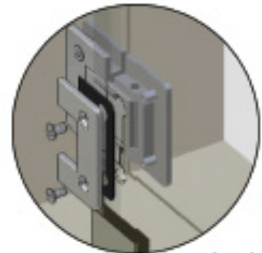

FIG.20
- Fasten hinges to return panel and place in closed position. The screws should face into shower and the hinge pivot point should be on door panel (FIG 20). There must be 1x rubber gasket (supplied) between each hinge plate and the glass to prevent direct contact.